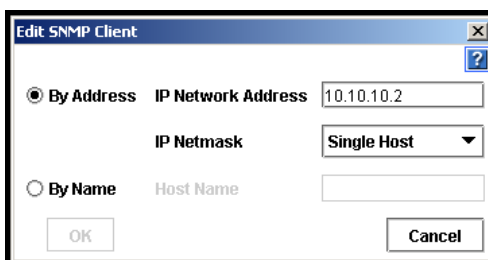

Figure 111. Editing SNMP Client from the Access Control List
2. Click Edit. The Edit SNMP Client window opens, shown in Figure 111.